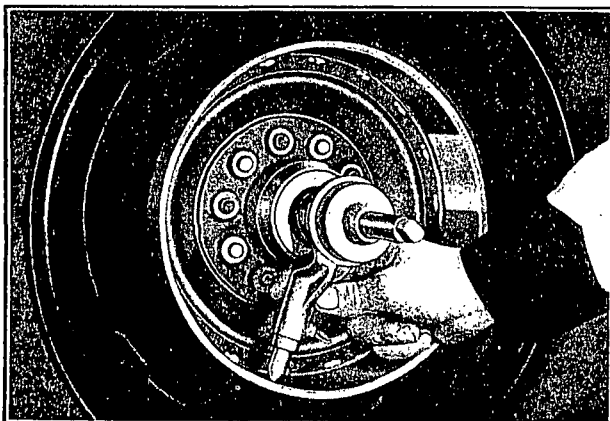

Fig. 74—Checking Brake Drum
6. Check the inside diameter of the brake drums with the brake drum gauge (Fig. 74). Set the brake shoe gauge arbor so that the finger marked "Drum Diameter" is just in contact with the point of the brake drum gauge pin. Place the proper adapter bushing on the spindle or axle shaft and slide the brake shoe gauge over the adapter bushing.